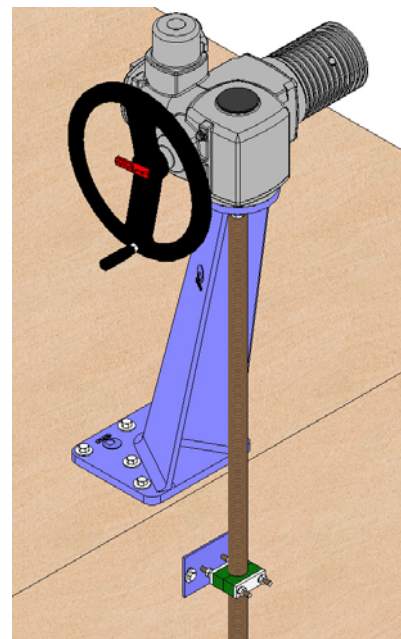

fig. 13
- Possibility of leaning floor stand (fig. 13).